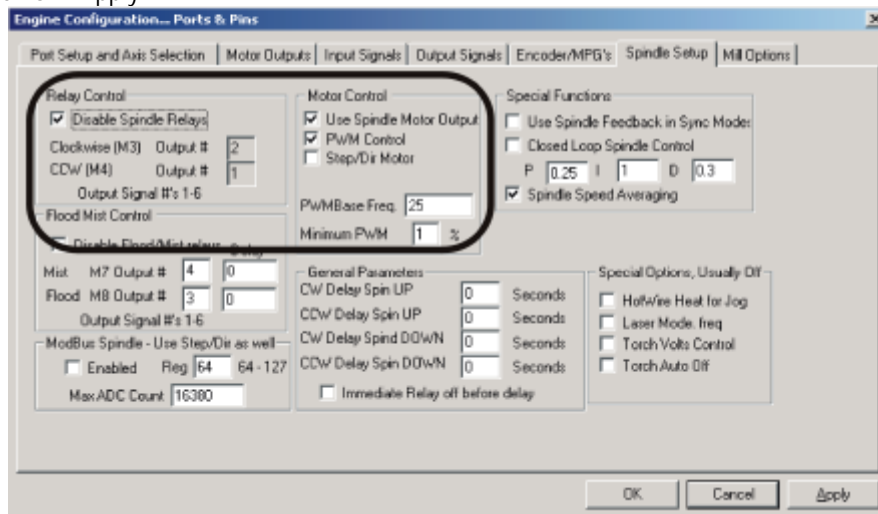

Figure 3 – Mach3 Spindle PWM Configuration
- (2) Still in the "Config", "Ports and Pins" dialog, click on the "Spindle Setup" tab and make these changes:
- See Figure 3